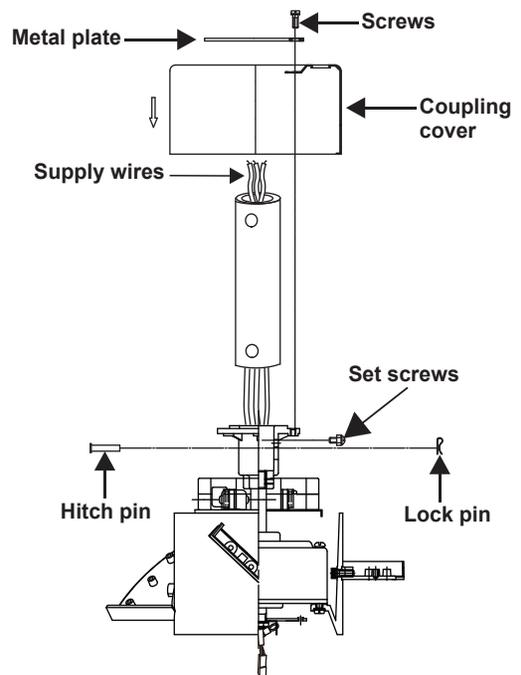

Figure 8
5. Loosen the two set screws and remove the hitch Pin and lock pin from the central shaft/top coupling of the motor assembly. Doing so will allow the down rod to enter the central shaft. (Fig. 8)
6. Carefully feed the fan wires through the down rod and pull them taut. Thread the down rod into the central shaft and tighten with the lock pin and hitch pin previously removed, re-tighten the set screws against the downrod. (Fig. 8)
7. Replace the metal plate and coupling cover to the fan motor by using the screws previously removed. (Fig. 8)